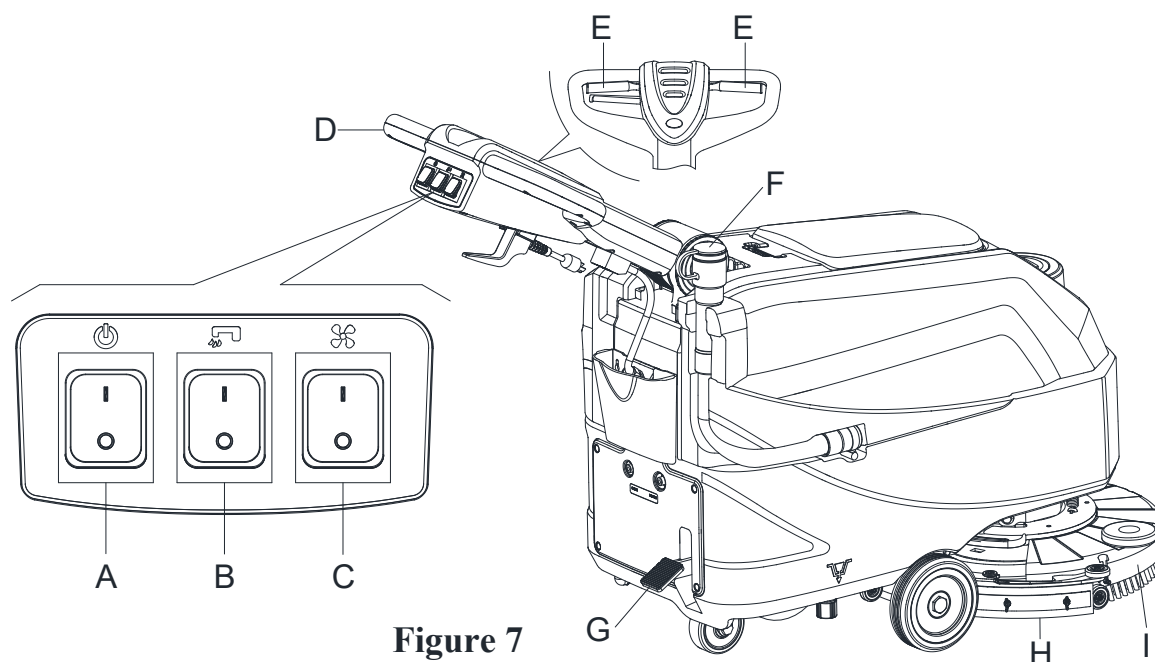

Figure 7
2. Push the machine to the area to be cleaned, by pushing it with the hands on the handlebar (D, Figure 7).
3. Lower the brush/pad-holder deck (I, Figure 7) and the squeegee (H) by lifting the pedal (G).
4. Press the power switch (A, Figure 7) to the "I" position.
5. Press the solution switch (B, Figure 7) to the "I" Position. (Work simultaneously with the safety switch (E) to control the solenoid valve.)
6. Press the vacuum switch (C, Figure 7) to the "I" position.
7. Start cleaning by pushing the machine with the hands on the handlebar (D, Figure 7) and pressing the safety switch lever (E, Figure 7).
To move the machine forward, press either the left or right safety switch lever (E, Figure 7) or both.
10. Stop the machine by using the handlebar (D, Figure 7).
11. When you have finished using the machine, release the safety switch lever (E) to turn off the brush/pad-holder and solenoid valve.
12. Press the solution control switch (B) to the "OFF" position to completely turn off the solution flow.
13. Press the Vacuum switch (C) to the "OFF" position. The vacuum system stops after a few seconds.
15. Lift the brush/pad-holder deck (I, Figure 7) and the squeegee (H) by pressing the pedal (G).
2. While keeping both hands on the handlebar press the safety switch lever (E, Figure 7), then maneuver the machine and start scrubbing/drying the floor.
2. Lift the brush/pad-holder deck (I, Figure 7) and the squeegee (H) by pressing the pedal (G).
4. Empty the recovery water tank with the hose (F, Figure 7). Then, rinse the recovery tank (C, Figure 9) with clean water.